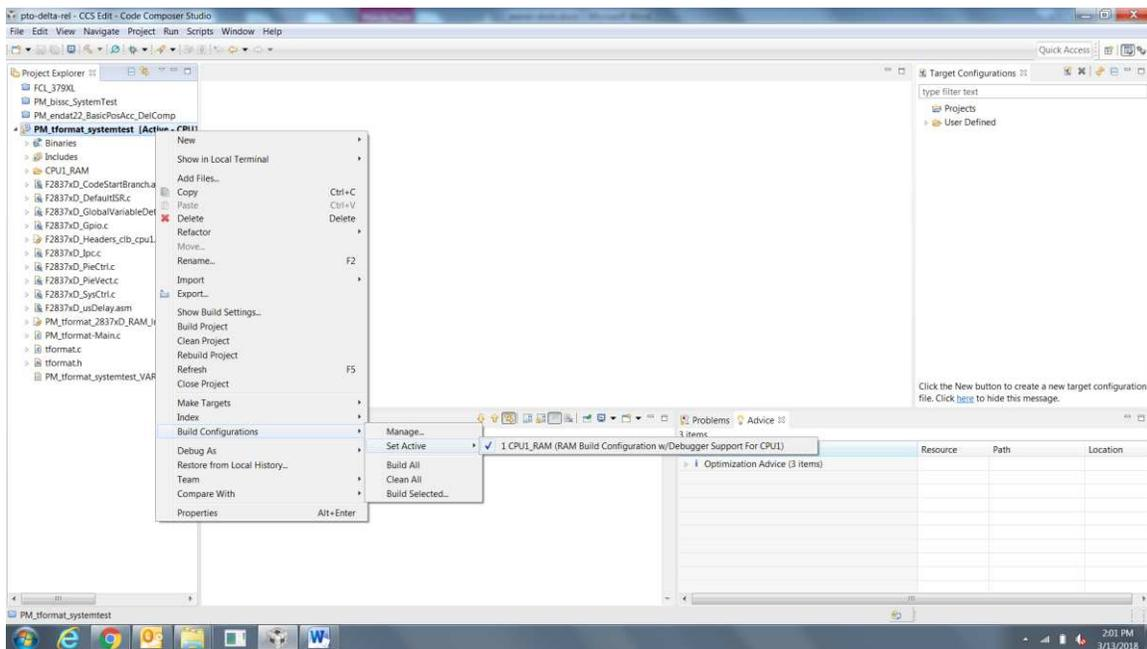

Figure 9. Selecting F2837x_RAM Configuration
- As shown in Figure 9, right-click on an individual project and select *Active Build Configuration* → *CPU1_RAM configuration*.